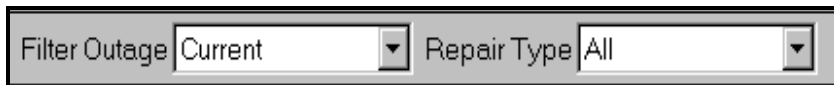

Figure 3-130. All Repair Window Drop-Downs
The two (2) drop-down lists at the top of the All Repairs Window help dictate which entries are displayed in the table. They are shown in Figure 3-130 below.